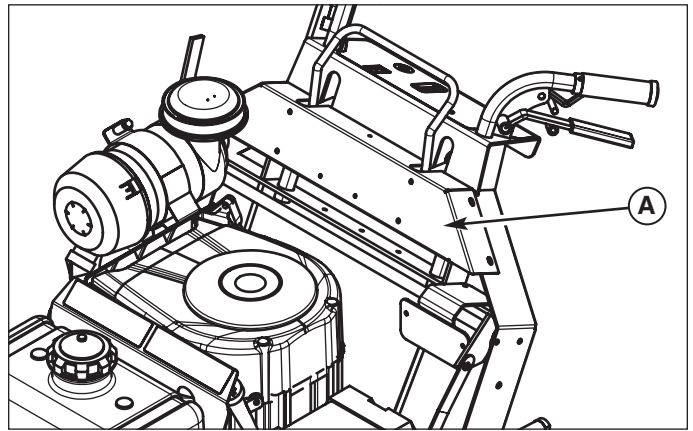
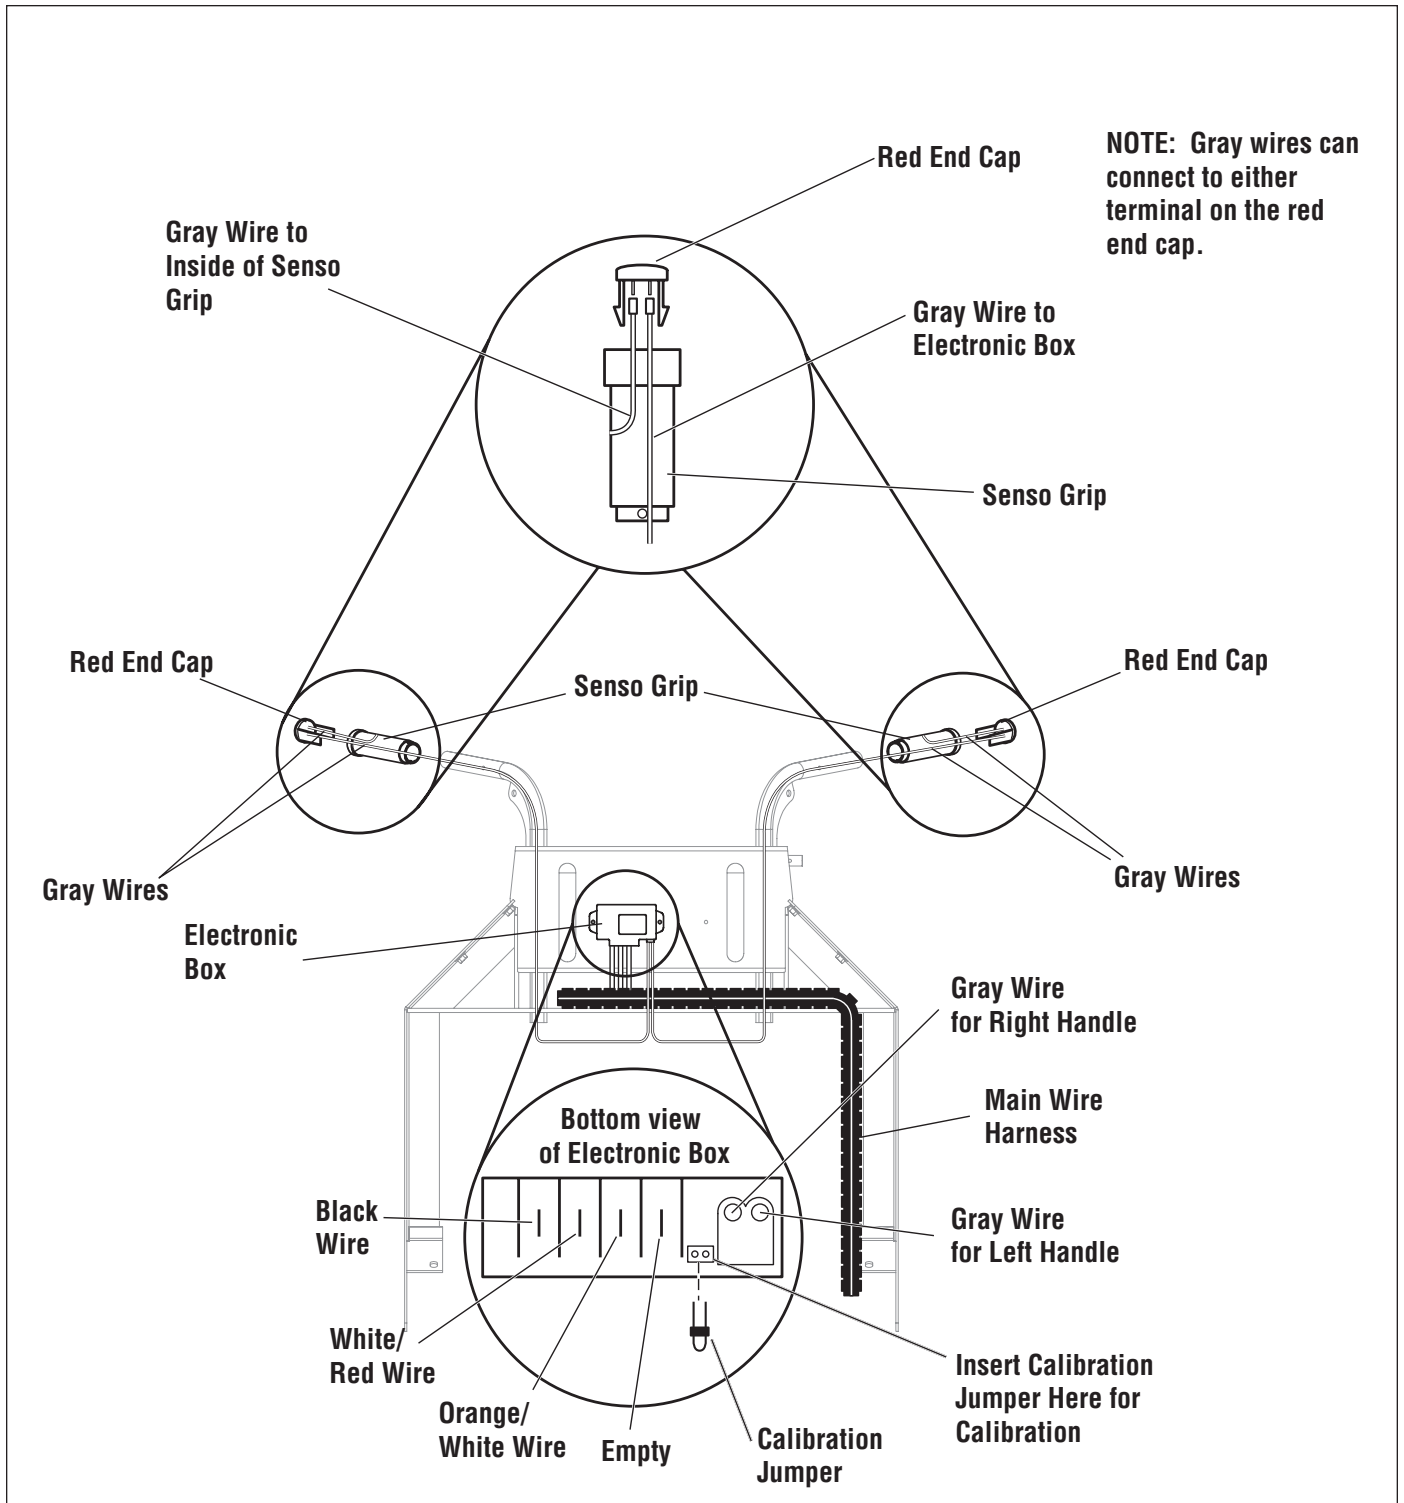

Figure 1. Remove The Handle Bar Cover
Figure 2. Wire Routing
2. Remove the handle bar cover (A, Figure 1) to gain access to the electronic box.
3. Refer to Figure 2. Route the wiring as shown in Figure 2.
3. See Figure 2. Install the calibration jumper into the electronic box at the location identified in figure 2.
6. Let the engine run for five (5) seconds.
11. Reinstall the handle bar cover (A, Figure 1).